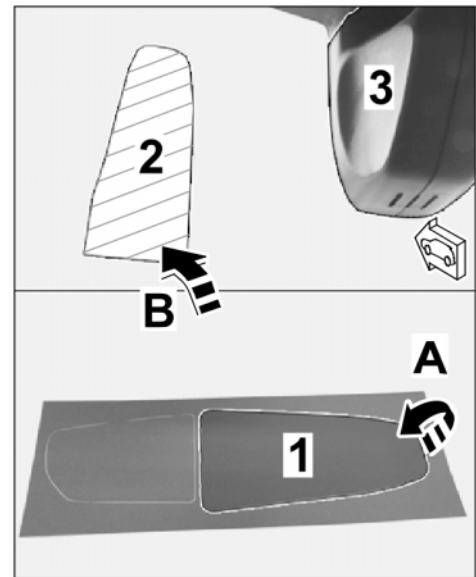

Figure 9
2.2.1 Pull 3M privacy film off the backing sheet (⇒ *Figure 9*).
2.2.2 Position 3M privacy film on the marked bonding surface on the windscreen (⇒ *Figure 9*) and stick it on.